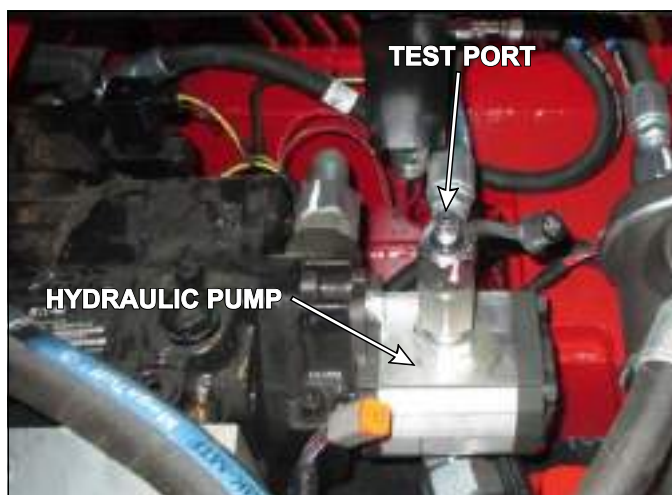

Figure 3-22: Test Port
See Figure 3-22.
- The main pump pressure relief valve is located in the hydraulic control valve, which is located beneath the control valve cover, in front of the driver's arm rest. **See Figure 3-22.**
5. Remove the control valve cover to expose the hydraulic control valve. **See Figure 3-22.**